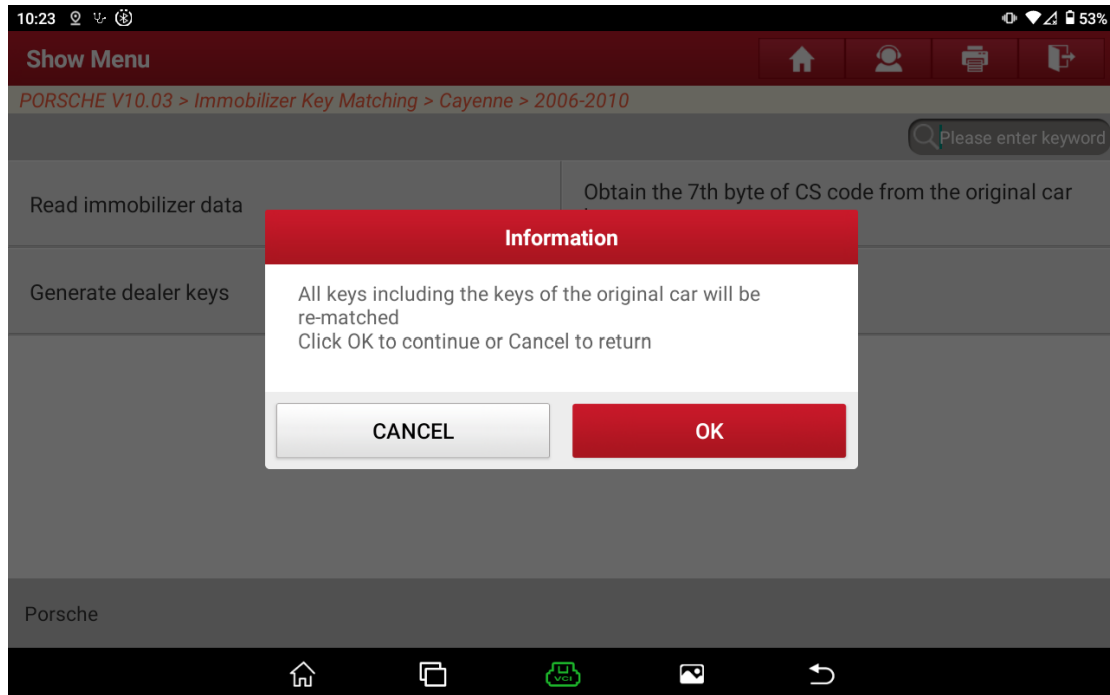
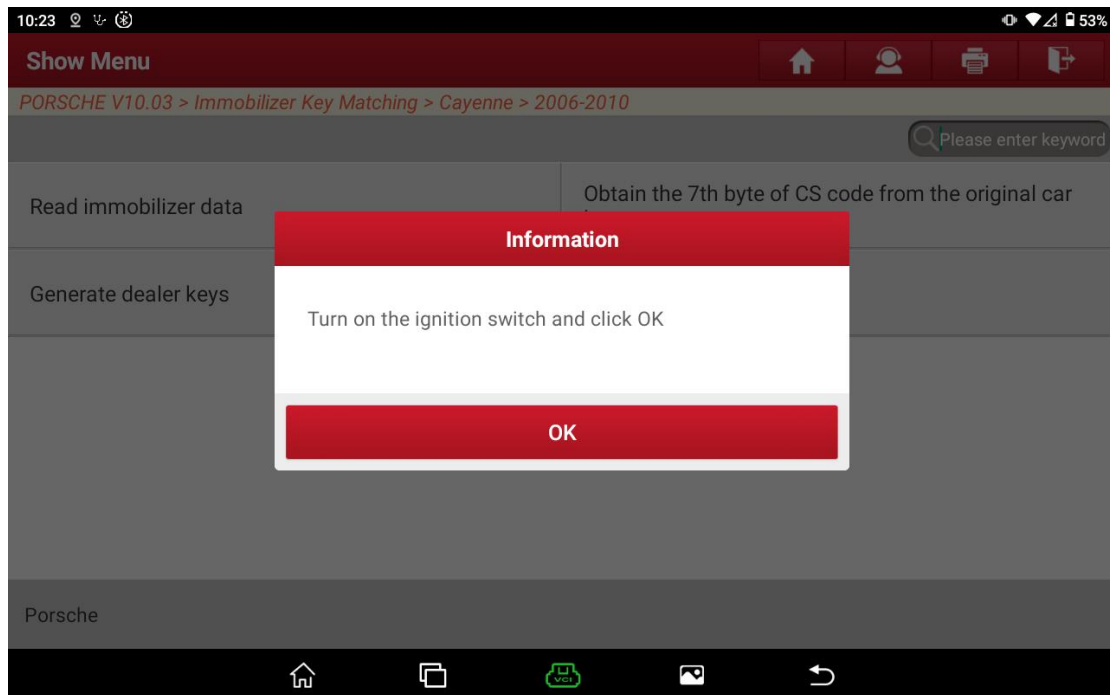

Figure 8 Prompt
Figure 9 Prompt
7. Choose [Learn keys]. As shown in Figure 8 and Figure 9, all keys will be re-matched, and the ignition switch needs to be turned on.